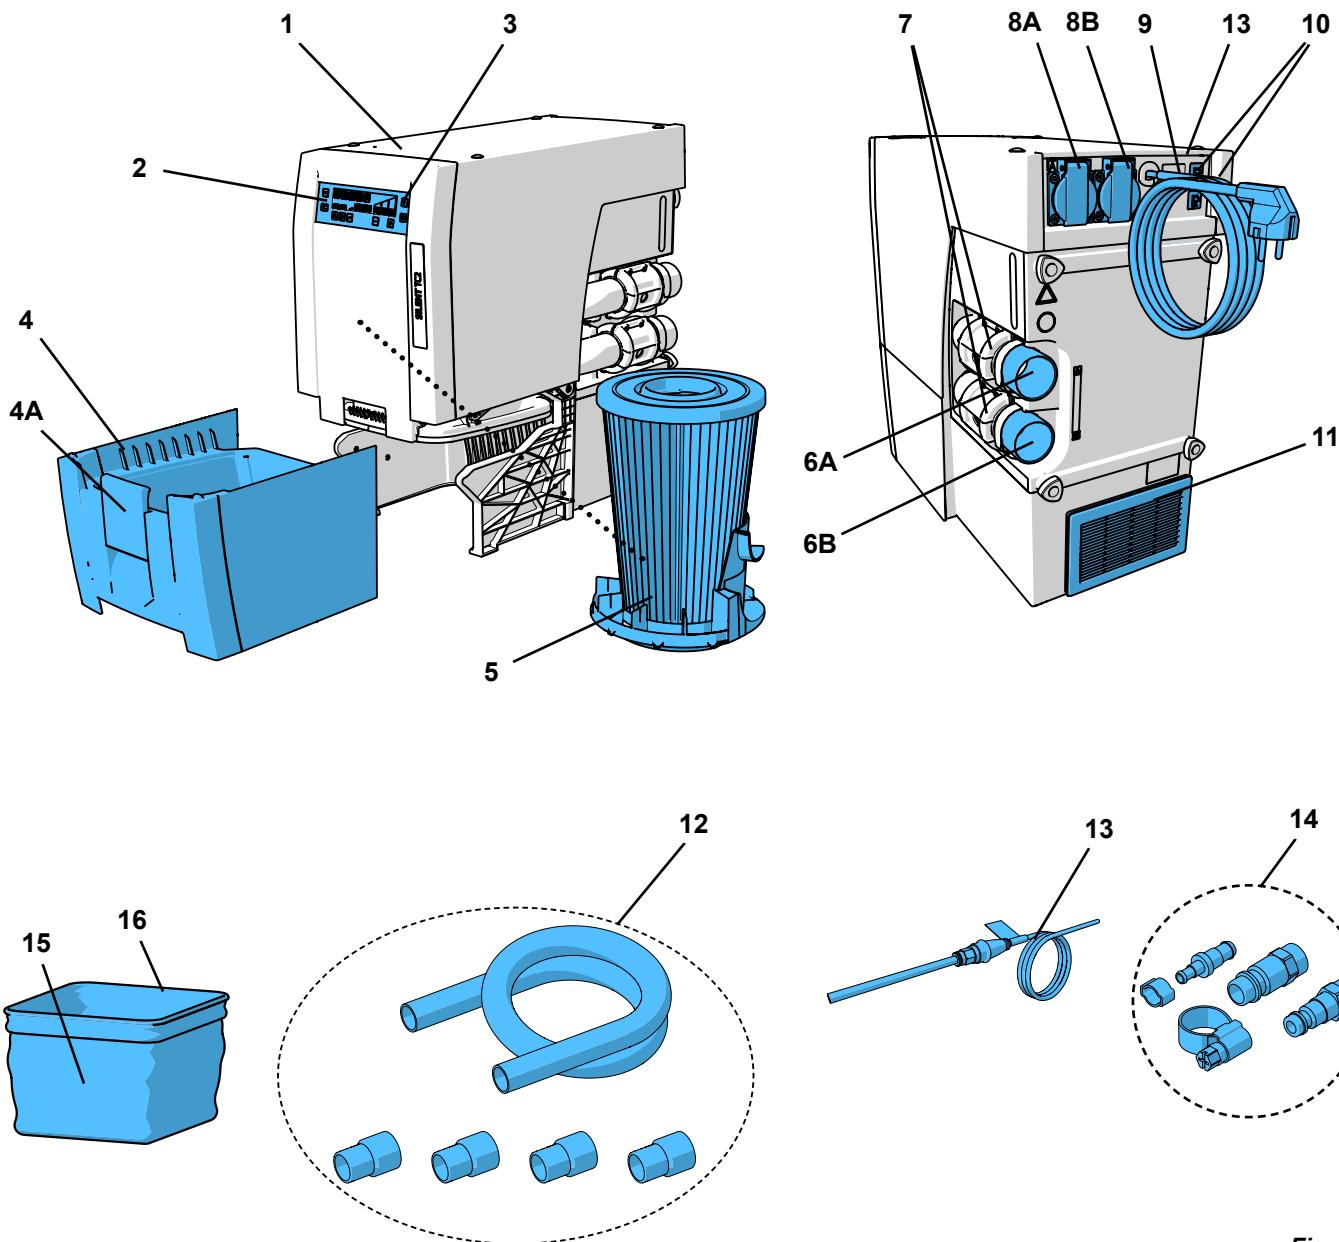

Fig. 1
- the exhaust air outlet (11, Fig. 1) is not blocked.
- External exhaust air duct (A) (see chapter 4.7).
- Opening in the cabinet wall (B), min. 250 x 120 mm, directly opposite the exhaust air outlet (11, Fig. 1).
- Remove the back side of the cabinet (C), distance from the back of the cabinet to the wall min. 50 mm.
- ⇒ Unroll the mains cable (9, Fig. 1) and insert the plug into the building's electrical socket.
- ⇒ Select the appropriate tube coupling from the supplied connection set (14, Fig. 1) and attach it to the end of the tube.